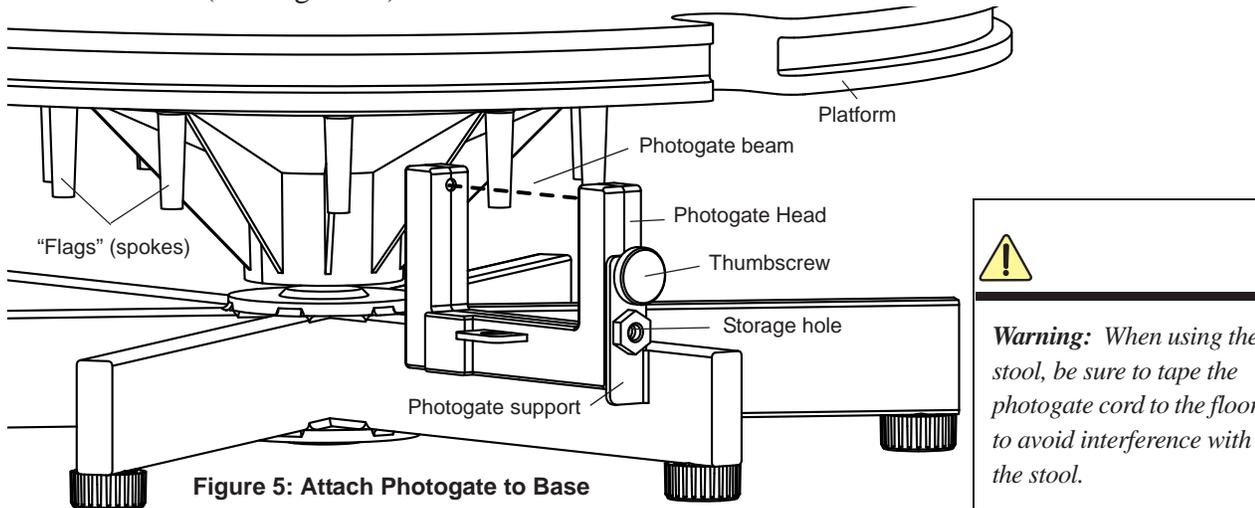

Figure 5: Attach Photogate to Base
1. Use the included thumbscrew to attach the Photogate Head to the photogate support on one leg of the base. (See Figures 5).